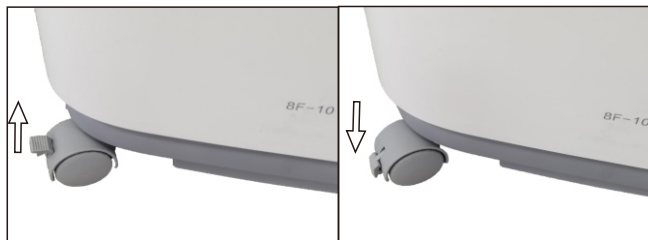

Figure 6: Caster
4. If you want to move the oxygen concentrator, Unlock the locks on the four casters. (Figure 6)